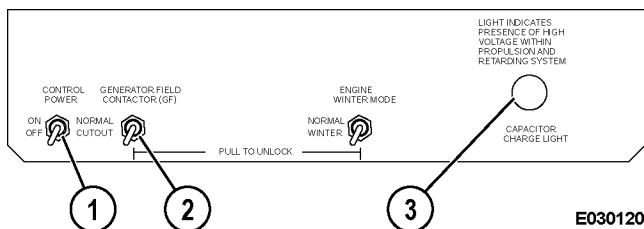

FIGURE 3-1. INFORMATION DISPLAY PANEL
6. Locate GF cutout switch (2, Figure 3-1) in the access panel on the left side of the main control cabinet. Place the switch in the CUTOUT position. This will prevent the alternator from re-energizing and creating system voltage until the switch is returned to its former position.